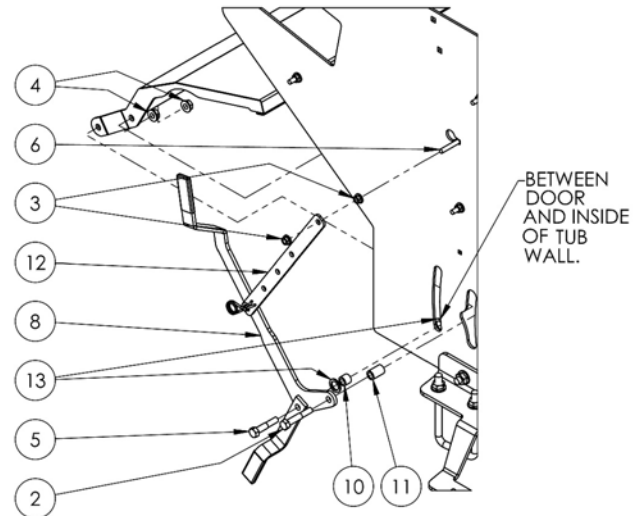

Figure 15: Install Door Front Handle
14. Install the chopper door front handle to the door and tub wall according to the chart and diagrams, see *Figures 15 and 16*.